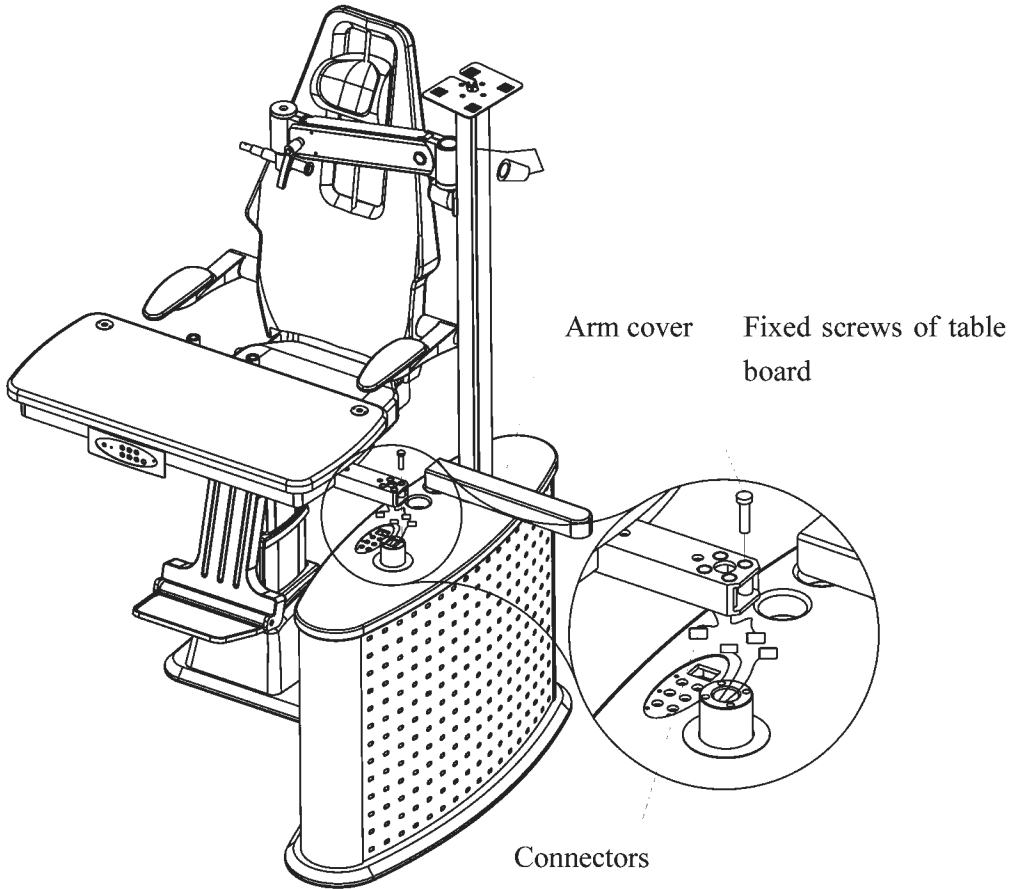

Figure.5
8) Installation of the table: connect the wires under table support and the wires from Axis of rotation following rotation, connect the table support and the Axis of rotation with screws, install the wires cover and table support in the grooves which under the table support. (See Figure 5)